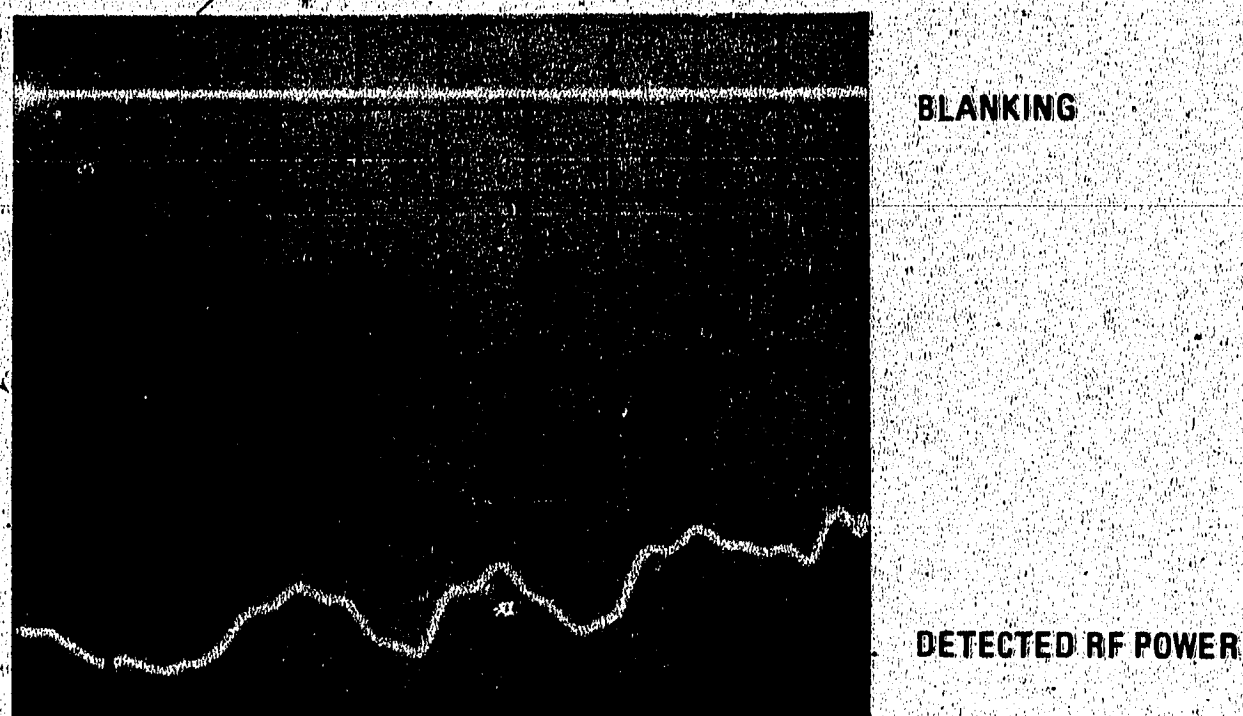

Figure 3. Detected RF Power
7. After the RF light turns on, the oscilloscope display should be similar to Figure 3.